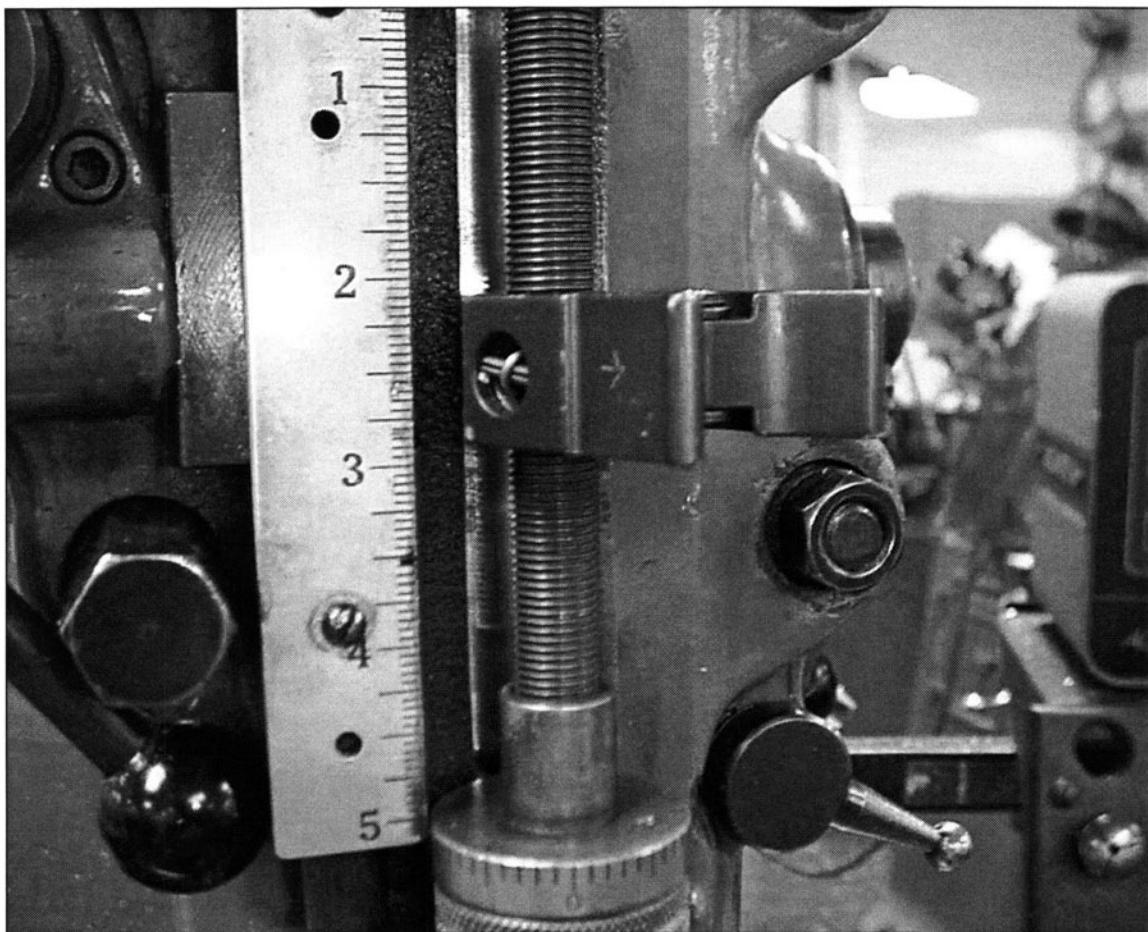

FIGURE 6-17 A pinch type quill stop is shown being used here.
25. Be careful when using pinch type quill stops. (See Fig. 6-17)